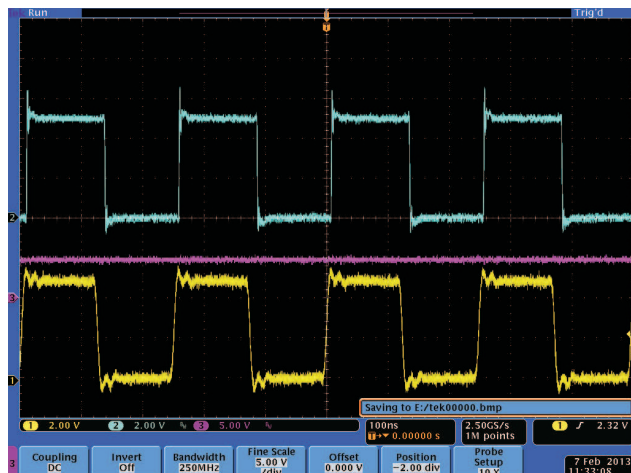
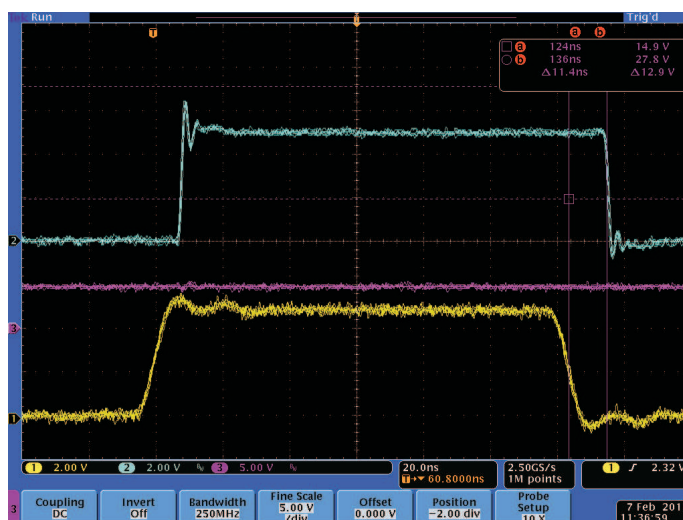

Figure 4. Non-Inverting Output
Figure 6. Non-inverting Output, Input Falling Edge Propagation Delay
8. Record reference waveform as shown in Figure 4 through Figure 6.
Figure 4 through Figure 6 show the operation with no load on the output and non-inverting input.